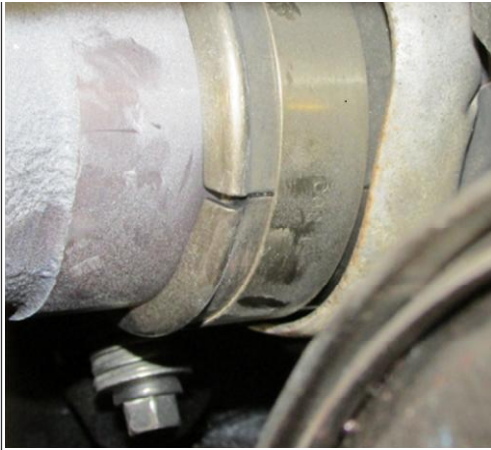

Figure 31: Exhaust Manifold Ring Seal/Clamp
32. Install ring seal clamp (Figure 31) center of shield.